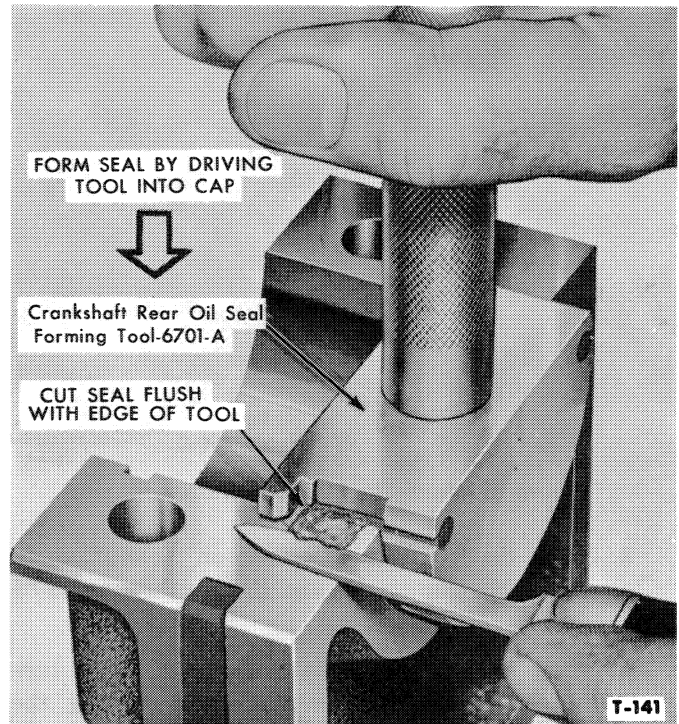

Figure 65—Installing Rear Main Bearing Cap Oil Seal
1. Clean the main bearing bores and oil seal groove thoroughly before installing the bearings in the block. Soak the main bearing oil seals in engine oil at least for ½ hour before installation. Work the seals into the rear main bearing cap and cylinder block, then seat them with forming Tool 6701-A and hammer. Cut the edges flush as shown in Figure 65.